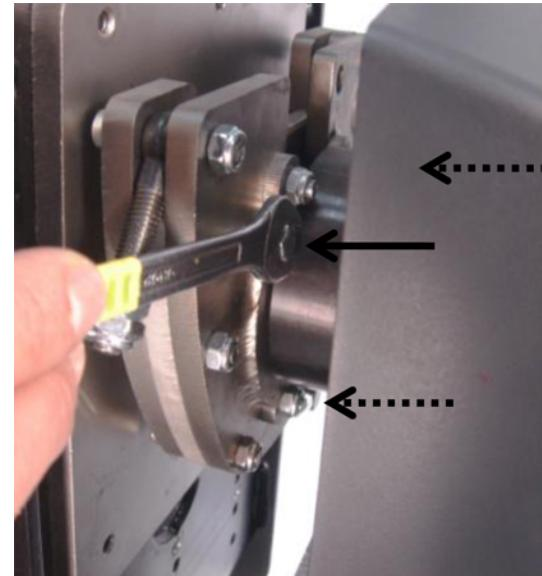

Figure 3-24 Tighten Blocking Bolts
5. Tighten (3) blocking bolts. (Figure 3-24)